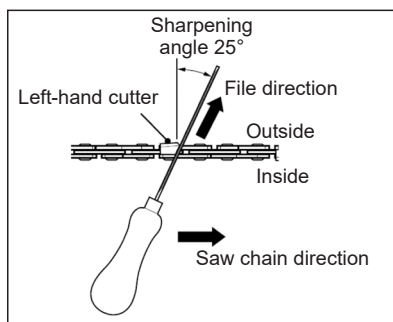

Fig. 15b
- 5). File at an angle perpendicular to the bar, and at an angle of 25° to the direction of travel (Fig. 15b).